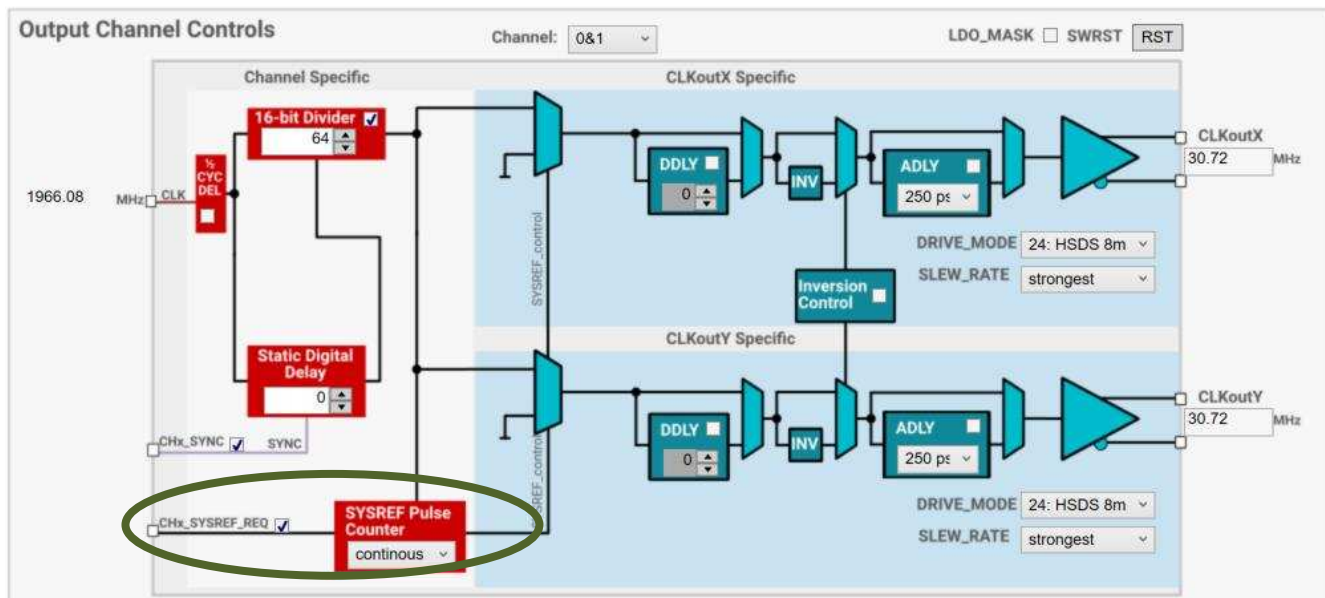

Figure 17. TICSpro Setting an Output in Continuous SYSREF Mode
- Switch to OUTPUTS tab, enable the SYSREF function for the desired outputs. Set the SYSREF Pulse Counter to Continuous as shown in Figure 17.